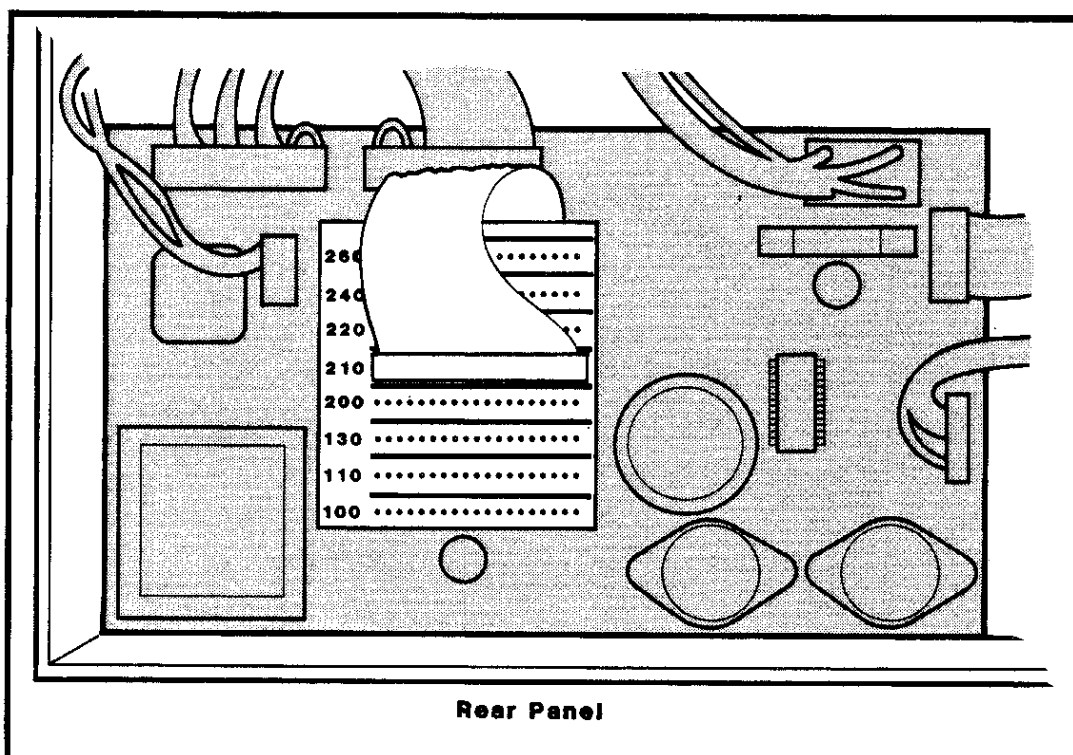

Figure 2-3: THE TAP-SELECT CABLE
4. Find the tap-select cable (Figure 2-3). It is a yellow cable located on a shelf at the right rear of the system, behind the disk drives. To select the new line voltage, unplug the connector from its current position and connect it to the row of pins marked with the correct voltage. If you find it difficult to remove the cable from its original position, gently wiggle the connector to loosen it. Do not force the connector or pull on the wires.